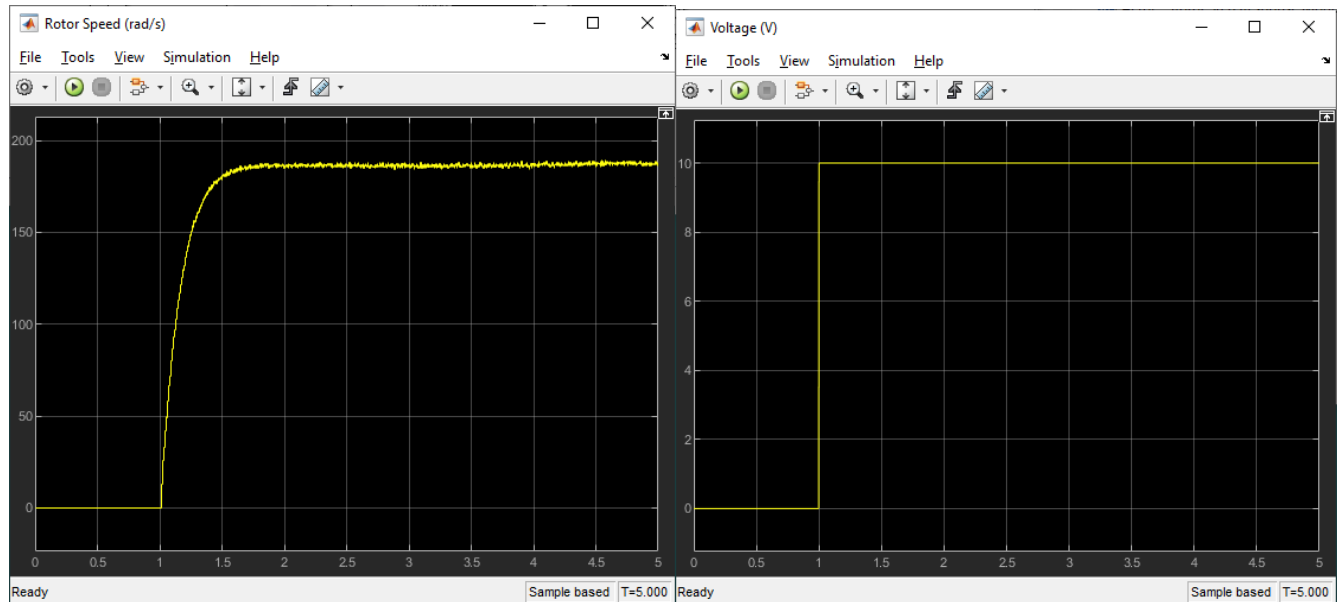

Figure 2 - Rotor speed response
- Build and run the *q_aero2_rotor_step* Simulink model in QUARC to apply the step to the front rotor, i.e., motor 0. To do this, click on the *Monitor & Tune* button in the Simulink menu under the *Hardware* tab. The model will stop automatically after 5 sec. The response should look similar as shown in Figure 2.